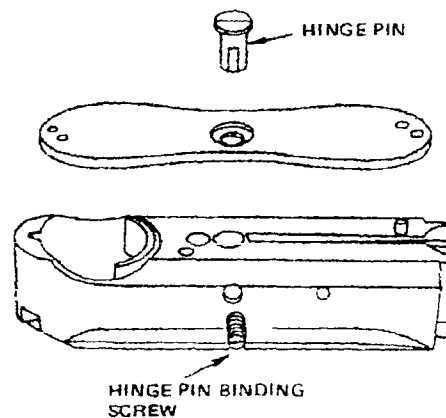

Fig. 30
2. Loosen hinge pin binding screw shown in Fig. 30 and by lifting upward, remove needle plate and hinge pin.